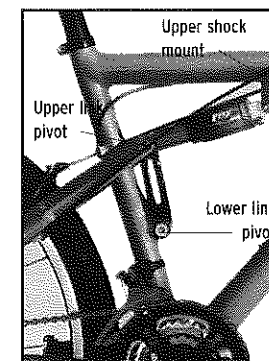

Fig. 56
1. Remove the upper link bolt and axle (Fig. 56). Be careful not to let the shock swing down and hit a frame tube.